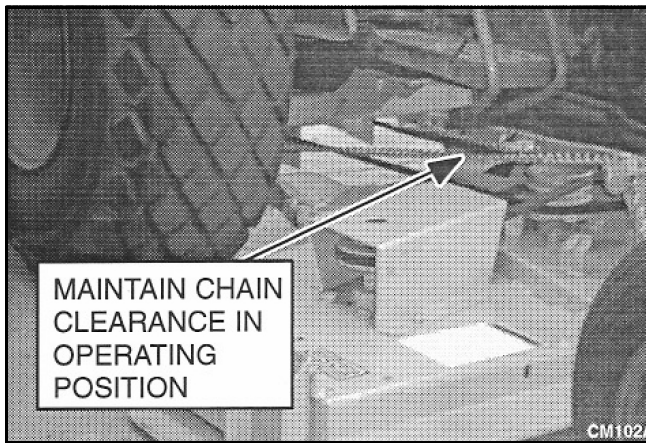

Figure 2. Chain Clearance from Drive Belt
■ Be sure lift chains do not interfere with drive belt (see Figure 2).